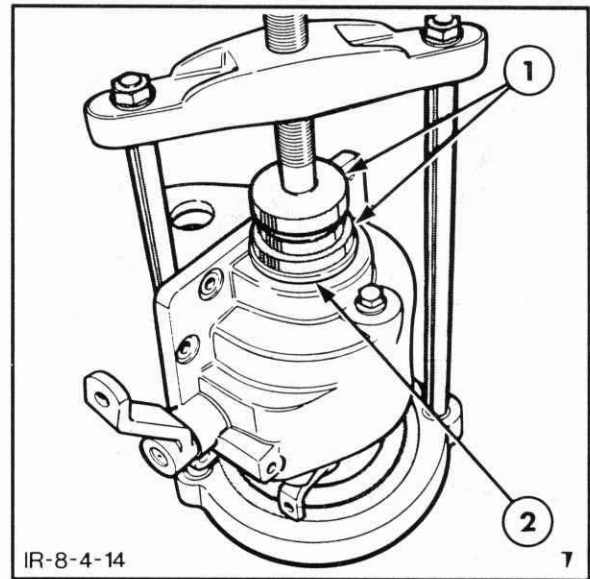

Figure 7-152
11. Position the driven gear thrust washer over the output shaft and using a suitable press and step plate adaptors, Tool No. 630T or 9211, install the rear bearing, Figure 7-152. The bearing must only be pressed into the bore sufficiently to allow the locating snap ring to be installed. Install the snap ring.